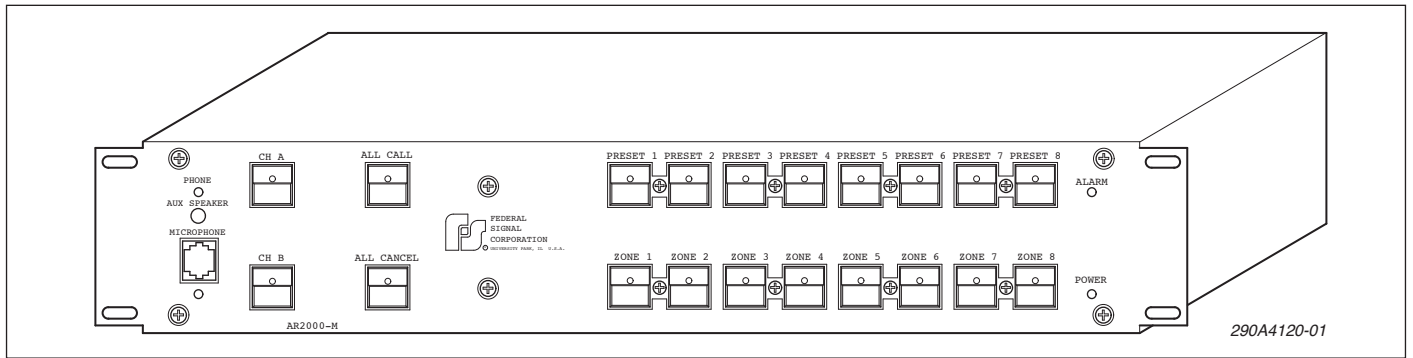

Figure 1-1.
The Model AR2000-M (see figure 1-1) Audio Router, is a UL listed and cUL certified central control device that is capable of routing a selected audio input to specific zones. It can control signals to speakers designed for 25Vrms line operation or 70Vrms line operation. It can also control 1Vrms signals intended to be amplified with a separate amplification device. The AR2000-M has a public address (PA) function so voice messages or instructions can be announced over the Audio Router system through an optional Model MSB-1 or MNC-1 Microphone. The unit can also be used to play background music generated from an external source over the Audio Router system.